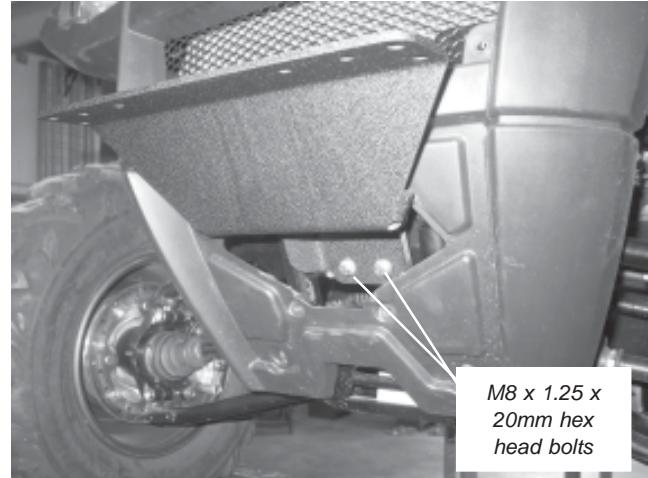
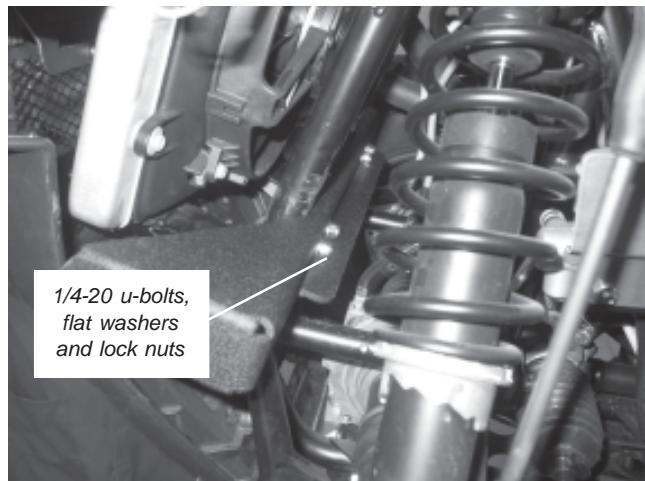

Figure 3
Figure 4
3. Attach front armor plate to frame, as shown in Figure 3. Use M8 x 1.25 x 20mm hex head bolts and 5/16" flat washers on front side and M8-1.25 nylon lock nuts on back side. Loosely secure hardware using 13mm socket and wrench.
4. Install rear crossmember behind two vertical frame supports as shown in Figure 4. Gusseted corner of crossmember should face up. Use 1/4-20 u-bolts, flatwashers and lock nuts to loosely attach to frame. A 7/16" deep socket will be used to tighten in place later.
Torque u-bolt nuts, as shown in Figure 4, to recommended specifications of 8lb. ft (10.8 N-m). Torque M8 x 1.25 hardware on bottom of front armor plate, as shown in Figure 3, to recommended specifications of 17lb.ft. (12.5 N-m).